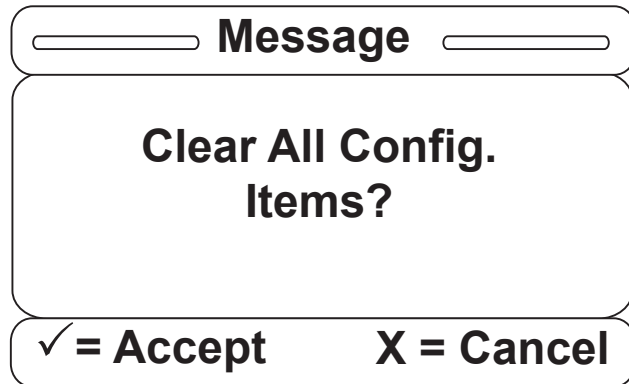

Figure S-33
- Once the "Clear All" item is selected, the confirmation screen in Figure S-33 will be displayed.